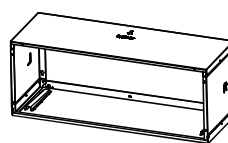

Fig.4
- Turn the SLEEVE as shown below.(See Fig.4)